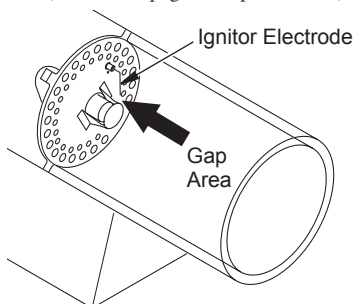

Figure 15 - Clearance Between Ignitor Electrode and Target Plate
7. Set gap between ignitor electrode and target plate to .17" (0.43 cm) (see Figure 15).